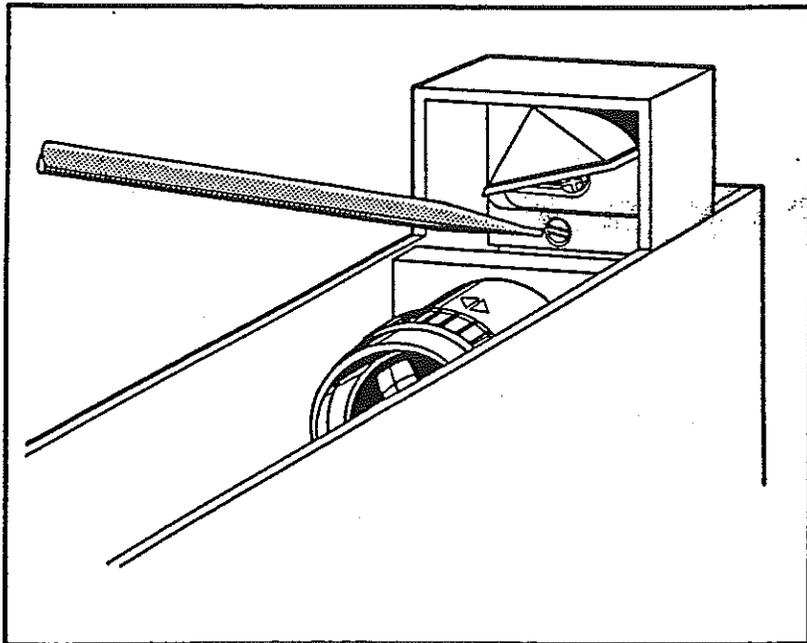

Fig. 24
- (c) Remove the camera front panel by first removing the securing screw at the bottom of the prism housing, (Fig. 24) then lifting the panel up about 6 mm and withdrawing forwards.